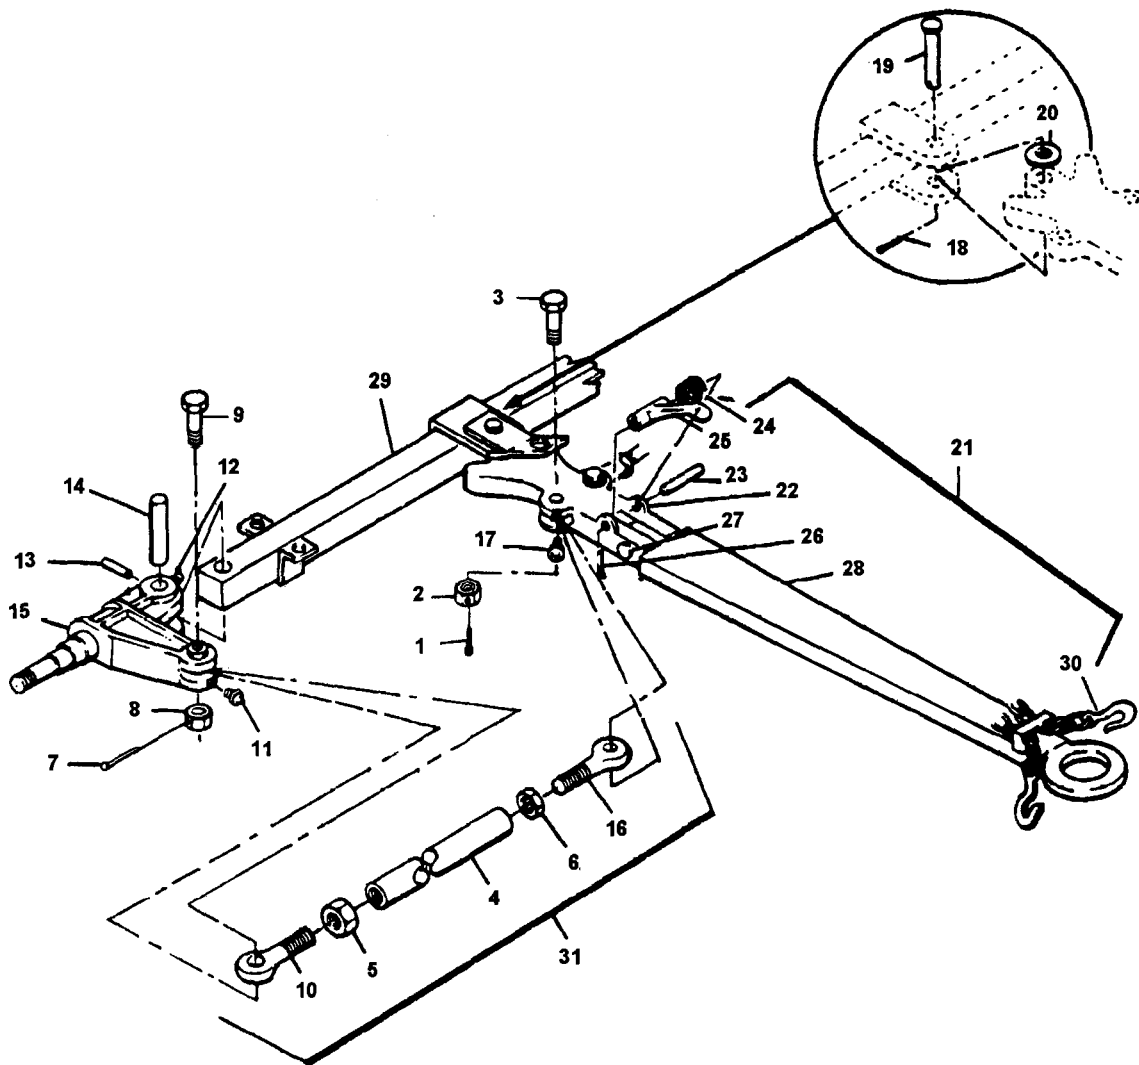

Figure 5-9. Wheel Mounting Kit, Front Axle and Tow Bar Assembly, Exploded View
- (1) Inspection and Repair.
- (a) Visually inspect tow bar (28, Figure 5-9) for cracks, corrosion, or other damage.
- (c) Inspect safety chains (30) for security of attachment, cracked or broken links or hook, damaged or missing hook latch (25) and corrosion or damage.
- (d) Check tie rod assemblies (31) for excessive play.